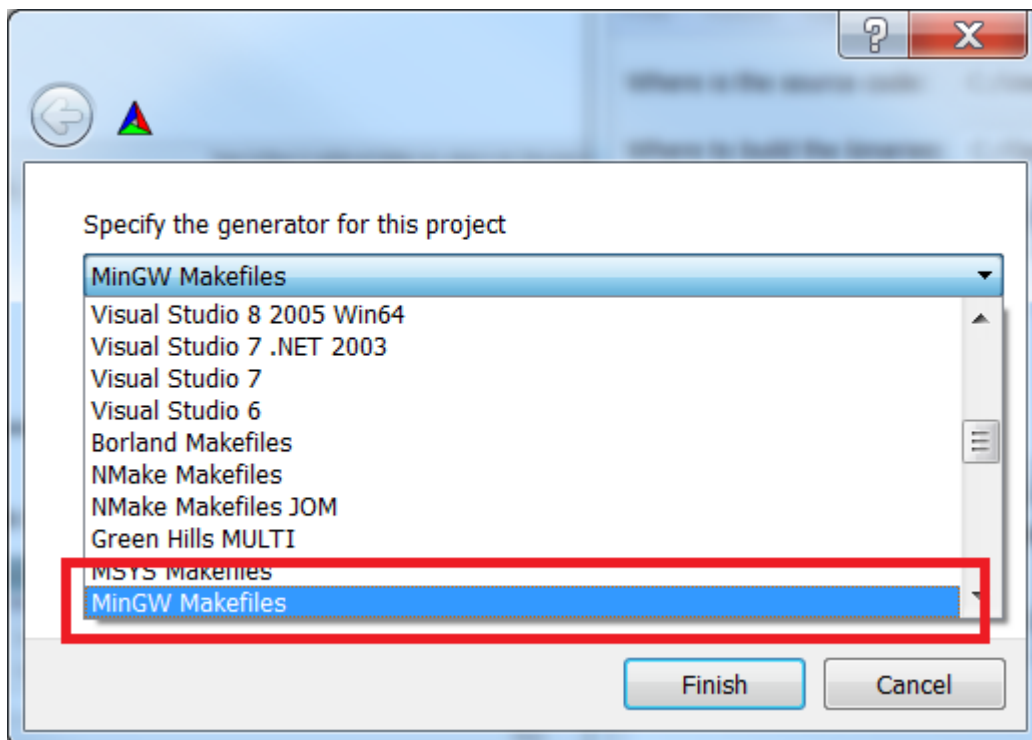

Figure 27. CMake Specify Generator
7. Then click “Configure” in the CMake GUI. In the drop down, find “MinGW Makefiles” as shown in Figure 27.